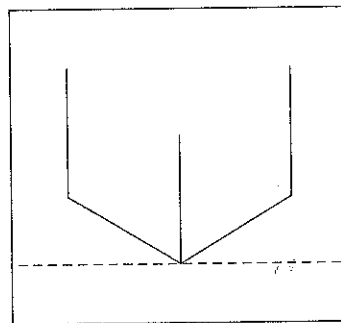

Figure 5-63: Step 3.
- Step 3.** Draw in the back verticals (see Figure 5-63).